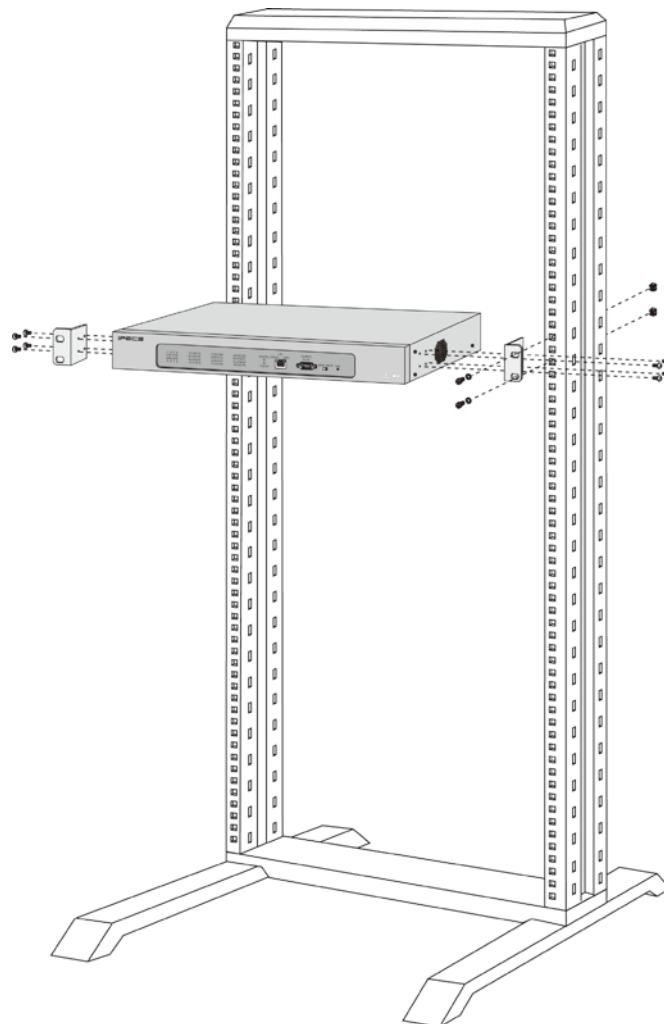

Figure 6.11-1 SLTM32 Rack Mounting Installation
1. Mount the left and right mounting brackets to the SLTM32 module using the eight (8) machine screws provided as shown in Figure 6.11-1.
2. Mount the Module in the 19" rack with the four (4) machine screws, nuts and washers as shown in Figure 6.11-1.